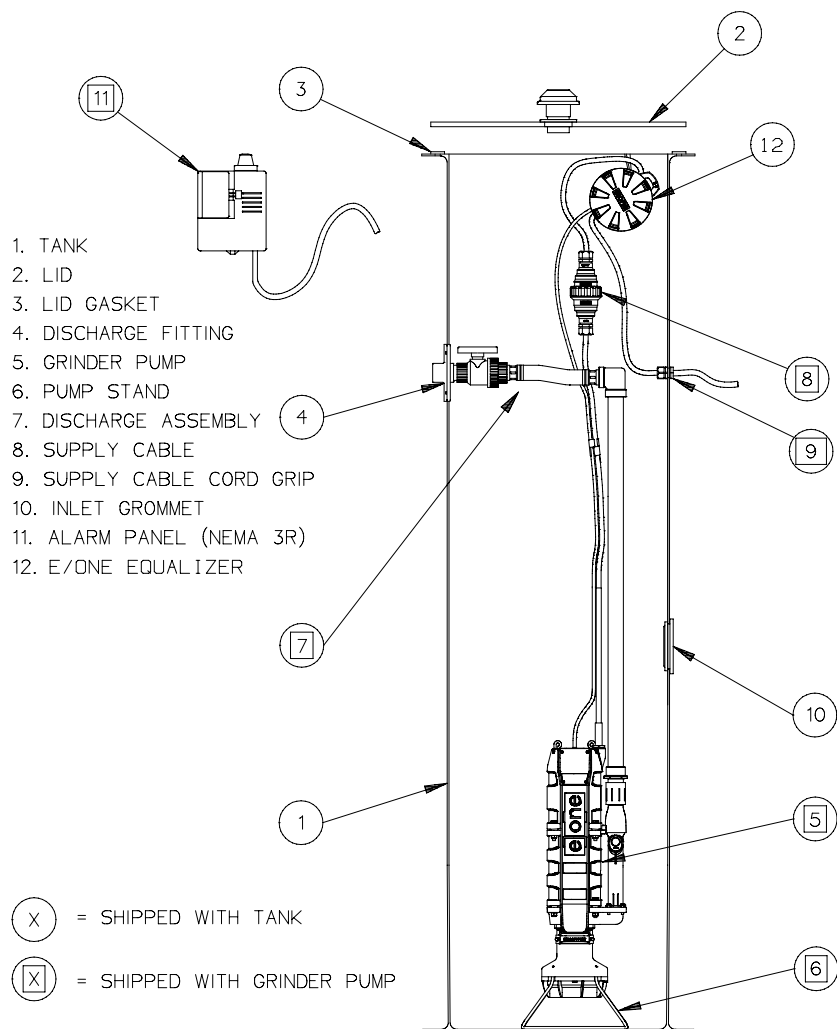

FIG. 1 - STATION COMPONENTS
1. Station Unpacking (Figure 1)